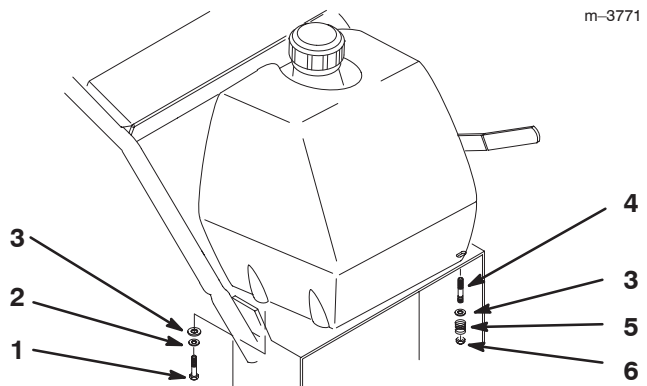

Figure 13
1. Align fuel tank with the top of the rear frame (Fig. 13).
2. Secure the right side of the fuel tank to the rear frame with 2 bolts (5/16 x 7/8 inch), lock washers (5/16 inch) and washers (5/16 inch) (Fig. 13).
3. Secure the left side of the fuel tank to the rear frame with 2 studs, washers (5/16 inch), springs and locknuts (5/16 inch) (Fig. 13).